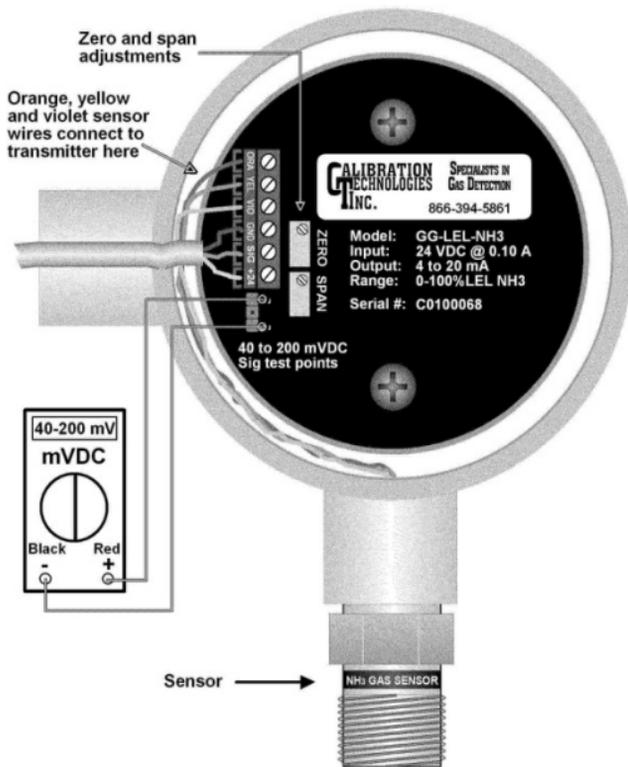

Figure 3: Sensor output and zero/span adjustments
- Adjust the zero pot to 40 mV from Test [-] to Test [+] (see **Figure 3**).
- Once the output signal has peaked (or two minutes maximum) adjust the span pot to achieve 61 mV from Test [-] to Test [+] (see **Figure 3**).